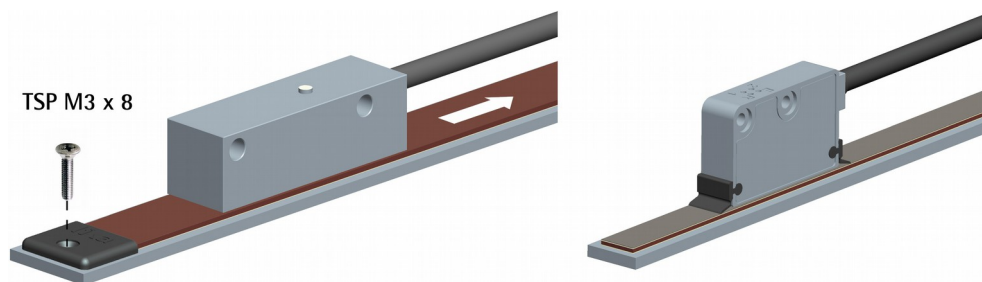
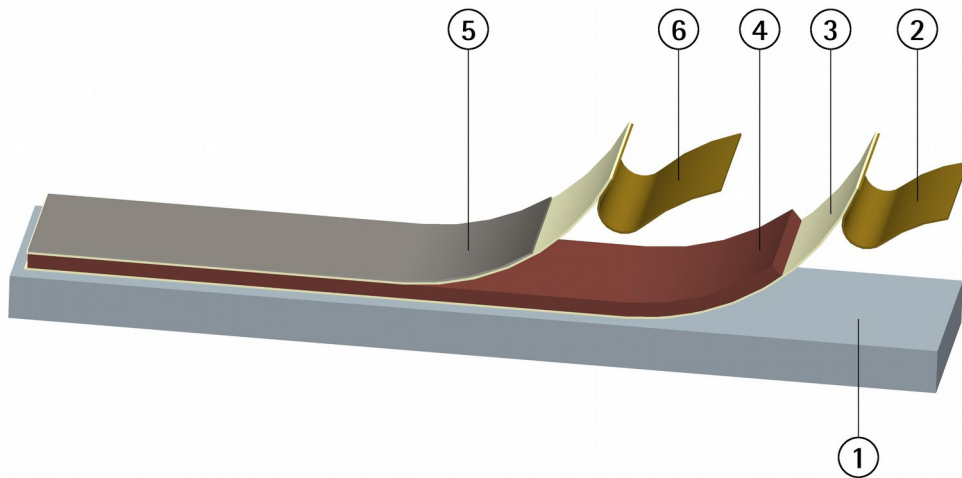

Figure 1 - Mounting the scale with adhesive tape
Figure 2 - Mounting the magnetic tape
3.7.1 Mounting the scale with adhesive tape (Figure 1 and Figure 2)
- Stick on the magnetic tape as explained in the "3.7.1 Mounting the scale with adhesive tape (Figure 1 and Figure 2)" section on page 18;
The mounting procedure for circular / angular applications is the same as for linear applications, refer to the "3.7.1 Mounting the scale with adhesive tape (Figure 1 and Figure 2)" section on page 18.